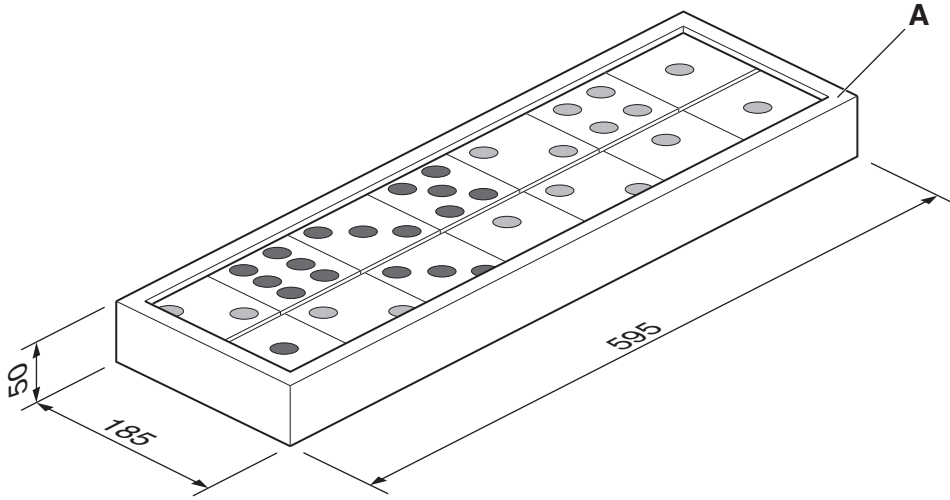

Fig. 5
- 4 Fig. 5 shows a box of giant dominoes used by children. The box is made from 15mm thick hardwood. The dominoes are made from 10mm thick manufactured board.